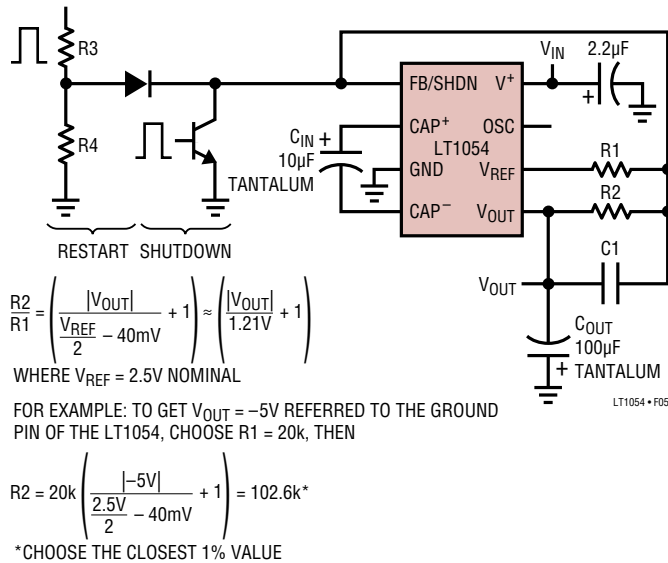

Figure 5
**FB/SHDN (Pin 1):** Feedback/Shutdown Pin. This pin has two functions. Pulling Pin 1 below the shutdown threshold ( $\approx 0.45V$ ) puts the device into shutdown. In shutdown the reference/regulator is turned off and switching stops. The switches are set such that both  $C_{IN}$  and  $C_{OUT}$  are discharged through the output load. Quiescent current in shutdown drops to approximately  $100\mu A$  (see Typical Performance Characteristics). Any open-collector gate can be used to put the LT1054 into shutdown. For normal (unregulated) operation the device will start back up when the external gate is shut off. In LT1054 circuits that use the regulation feature, the external resistor divider can provide enough pull-down to keep the device in shutdown until the output capacitor ( $C_{OUT}$ ) has fully discharged. For most applications where the LT1054 would be run intermittently, this does not present a problem because the discharge time of the output capacitor will be short compared to the off-time of the device. In applications where the device has to start up before the output capacitor ( $C_{OUT}$ ) has fully discharged, a restart pulse must be applied to Pin 1 of the LT1054. Using the circuit of Figure 5, the restart signal can be either a pulse ( $t_p > 100\mu s$ ) or a logic high. Diode coupling the restart signal into Pin 1 will allow the output voltage to come up and regulate without overshoot. The resistor divider  $R3/R4$  in Figure 5 should be chosen to provide a signal level at pin 1 of  $0.7V$  to  $1.1V$ .
The error amplifier of the LT1054 servos the drive to the PNP switch to control the voltage across the input capacitor ( $C_{IN}$ ) which in turn will determine the output voltage. Using the reference and error amplifier of the LT1054, an external resistive divider is all that is needed to set the regulated output voltage. Figure 5 shows the basic regulator configuration and the formula for calculating the appropriate resistor values. R1 should be chosen to
REFER TO FIGURE 5